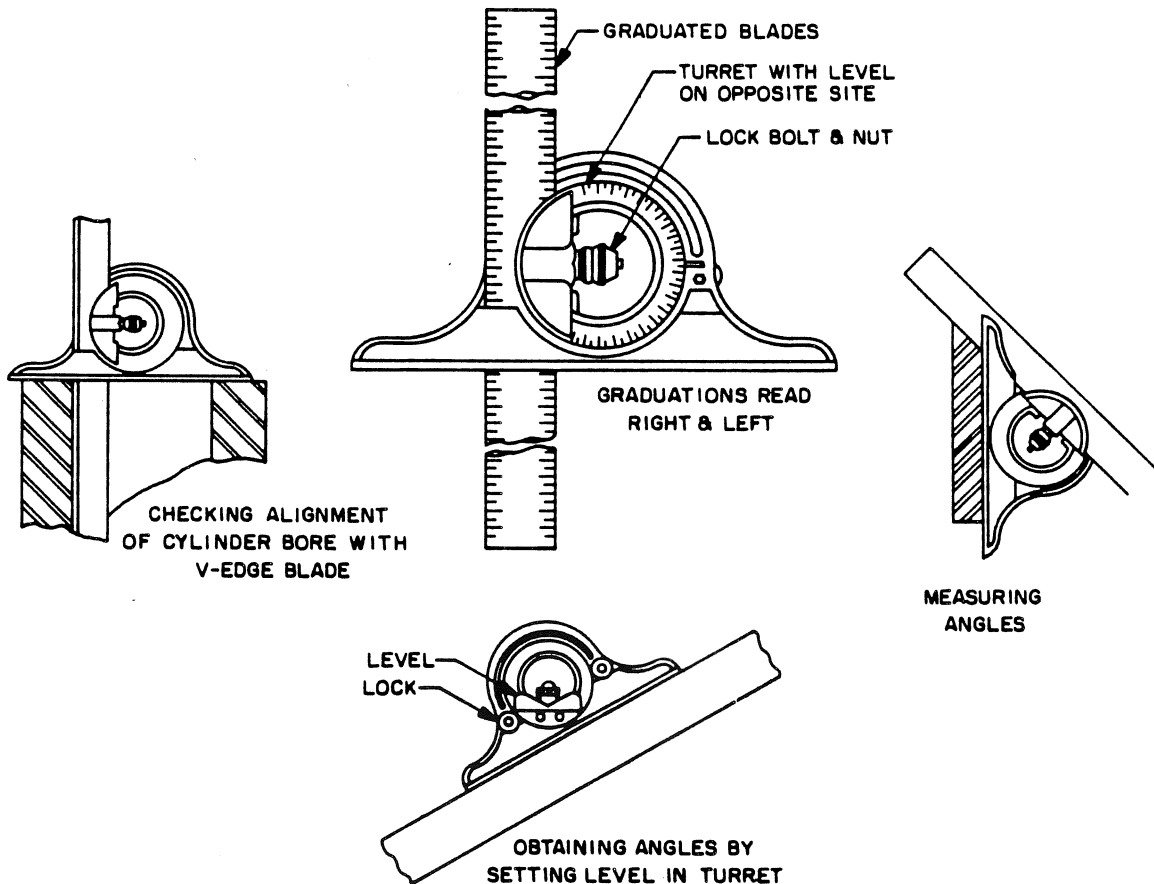

Figure 10.36. Uses for Protractor
1. Common uses for the protractor are shown in Figure 10.36.